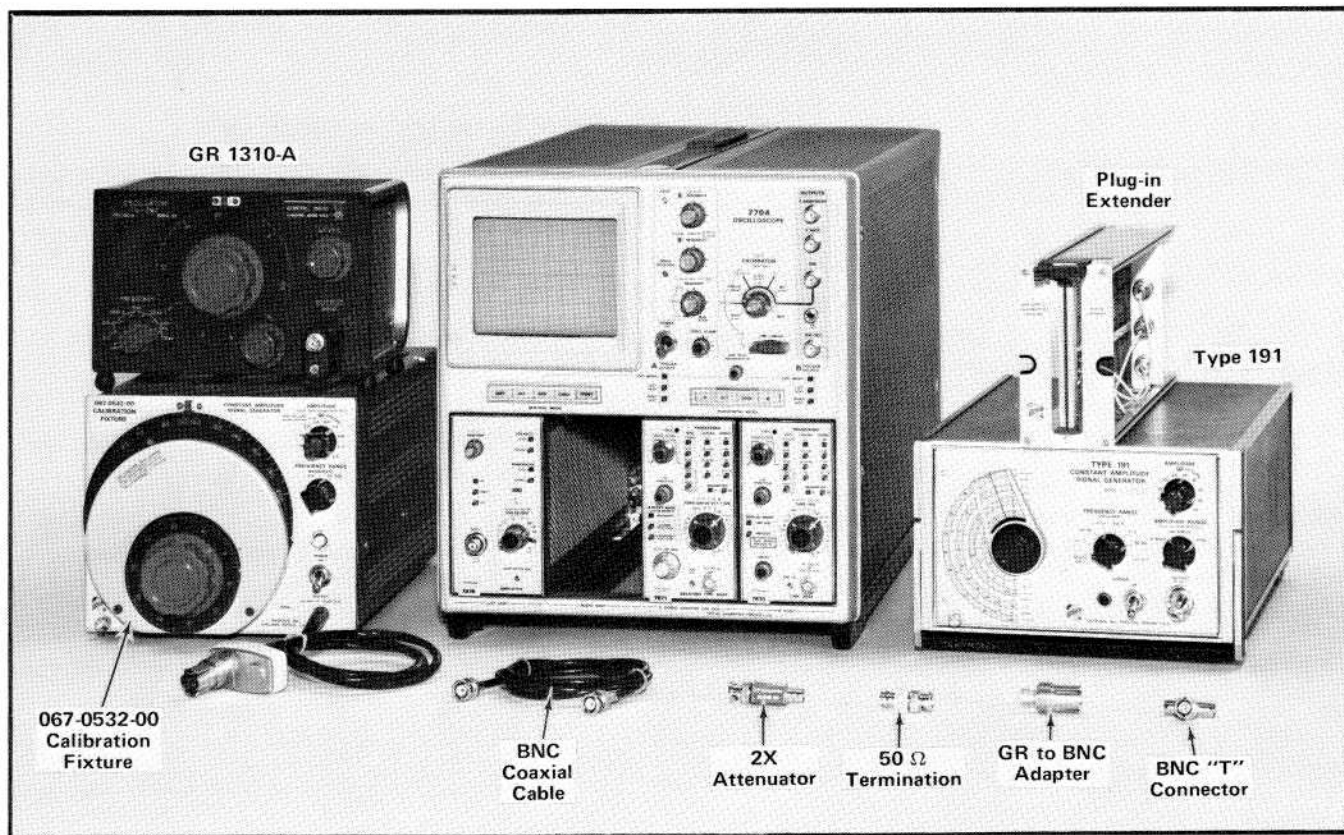

Fig. 5-4. Test equipment required for Steps 12 through 15.
- a. Test equipment required is shown in Fig. 5-4.